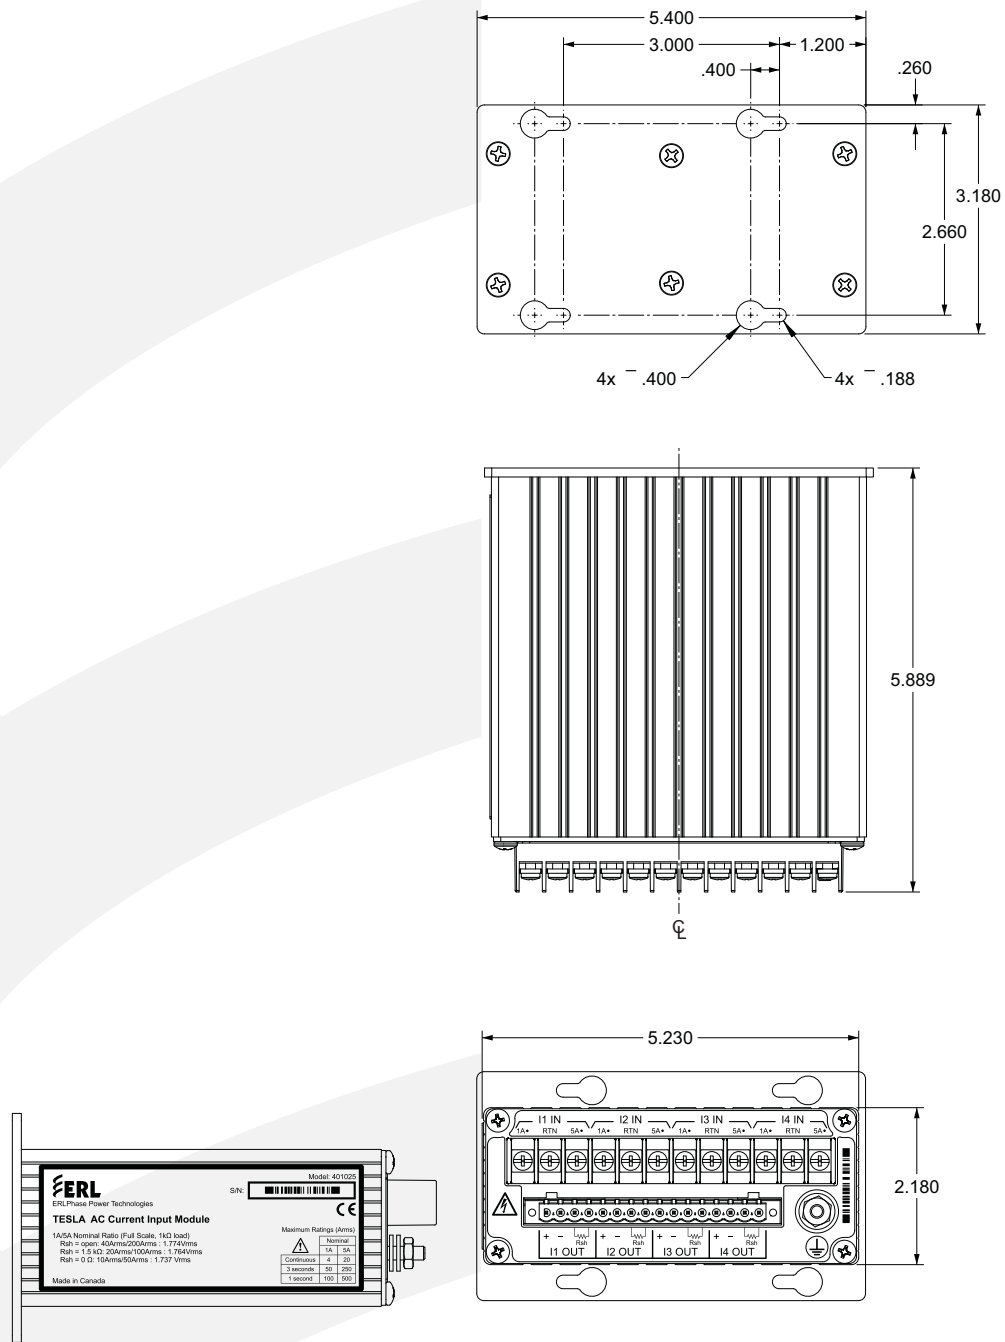

Figure F4: Part No 114261 - 4 Channel AC Current Input Module, 1A & 5A, Surface Mount
- Part No 114261 – Surface mount – Figure F4